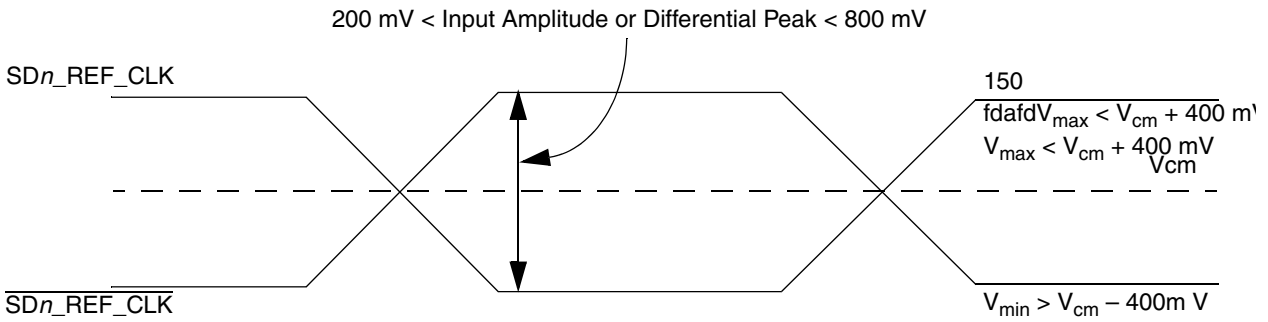

Figure 54. Differential Reference Clock Input DC Requirements (External AC-Coupled)
- For **external AC-coupled** connection, there is no common mode voltage requirement for the clock driver. Since the external AC-coupling capacitor blocks the DC level, the clock driver and the SerDes reference clock receiver operate in different command mode voltages. The SerDes reference clock receiver in this connection scheme has its common mode voltage set to SGND_SRDS_n. Each signal wire of the differential inputs is allowed to swing below and above the command mode voltage (SGND_SRDS_n). Figure 54 shows the SerDes reference clock input requirement for AC-coupled connection scheme.